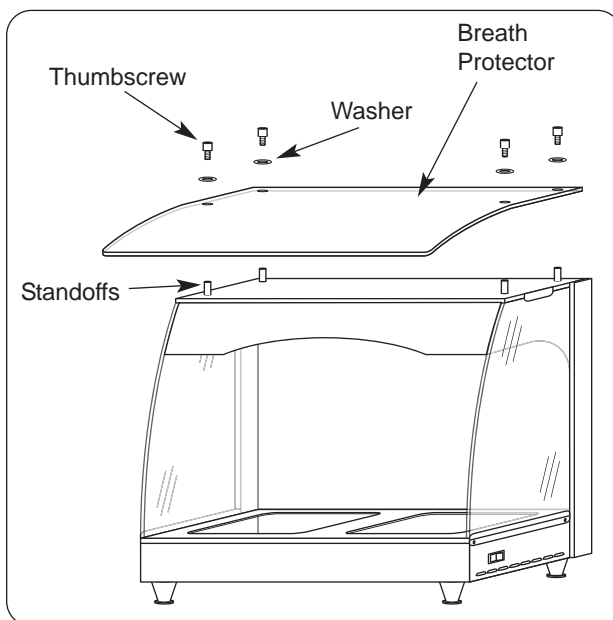

Figure 8. Installing Breath Protector
Installing the Breath Protector (See Figure 8)
1. Remove four (4) thumbscrews and washers from top of unit.
3. To re-install the breath protector, position it on top of unit, matching holes in breath protector to the holes in the standoffs on top of the unit. (See Figure 8.)